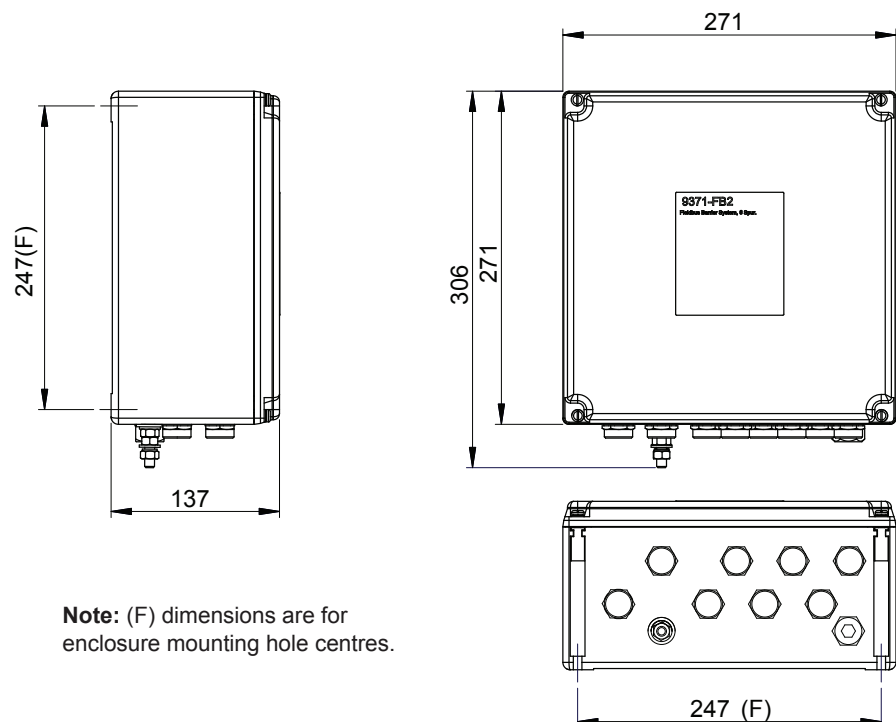
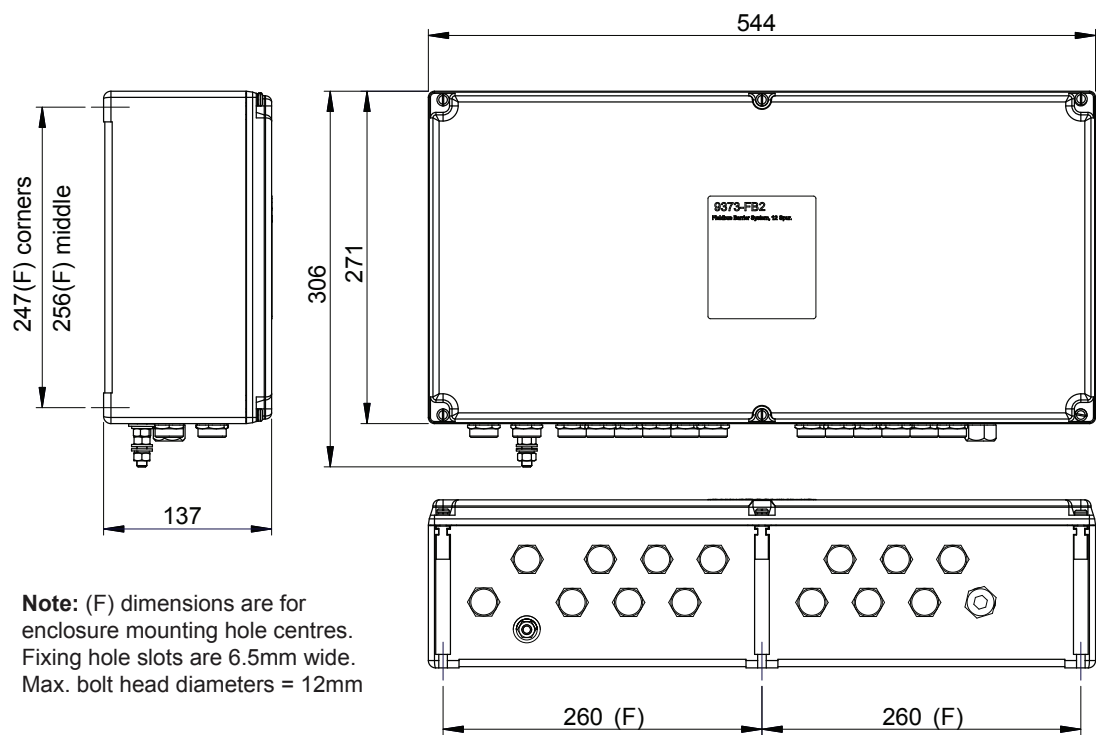

Figure 3.1 – External dimensions and mounting hole positions for the 6-way enclosure 9371-FB2-Px-PP
Figure 3.2 – External dimensions and mounting hole positions for the 12-way enclosure 9373-FB2-Px-PP
See Figures 3.1 and 3.2 for the dimensions, fixing locations and cable gland positions for both enclosure models.
- c) The enclosure is designed for mounting on a vertical surface, with the cable entry at the lowest point, as shown in the upper part of Figure 3.1 or Figure 3.2.
Mark hole positions as shown in Figures 3.1 or 3.2.
Use the dimensions indicated as (F) in Figure 3.2.
- a) It is recommended that a washer, not exceeding the 12mm diameter specified in Figures 3.1 and 3.2, is placed under the head of each of the bolts used to fix the enclosure to its mounting surface.